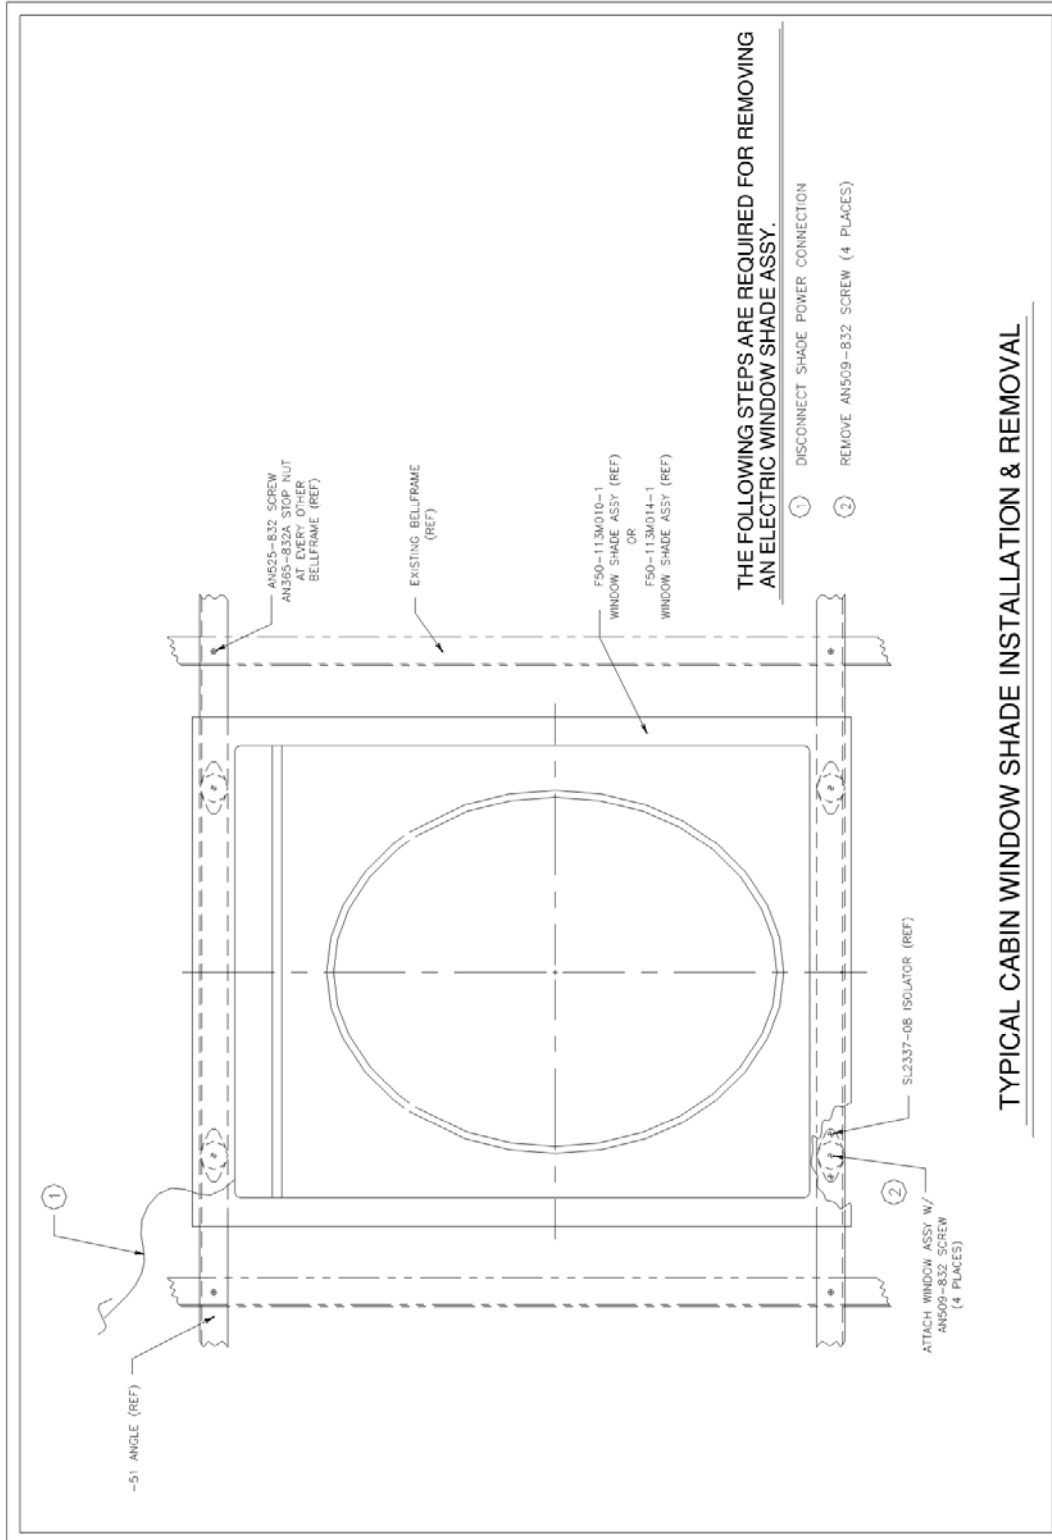

FIGURE 7 GRAPHIC 25-23-03-991-007
6. Cabin window removal (Refer to FIGURE 7/ GRAPHIC 25-23-03-991-007)
A. To remove cabin window attachment, refer to FIGURE 7/ GRAPHIC 25-23-02-991-007